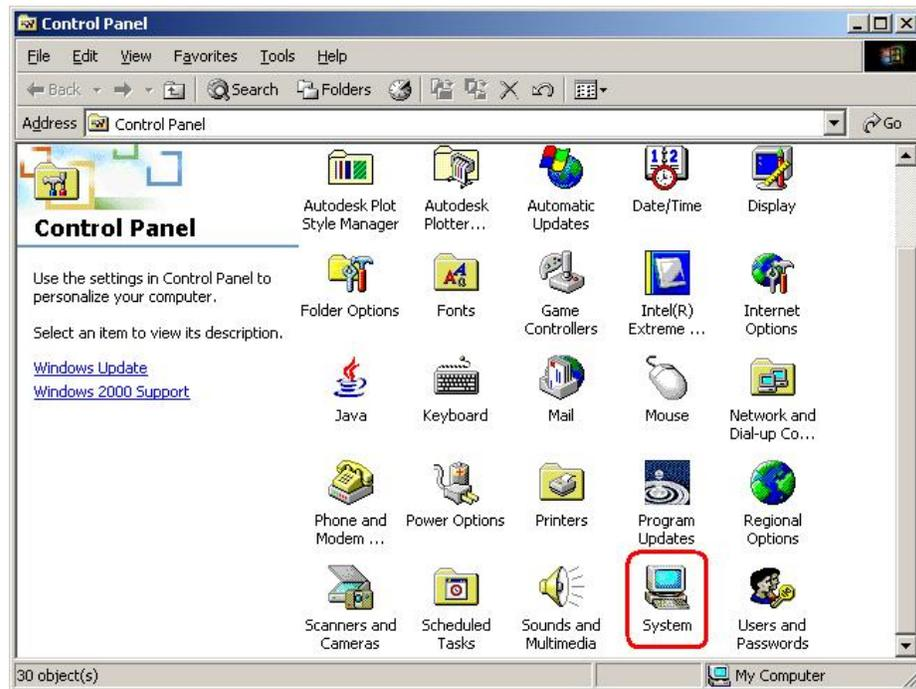

Figure 6-17: Double Click the System Icon
Step 2: Double click the **System** icon (Figure 6-17).